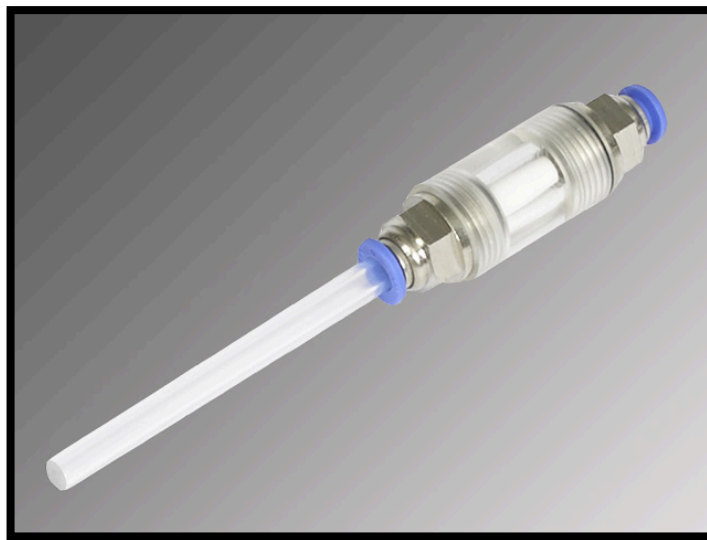

Figure 8: Portable Analyzer External In-Line Filter
2. The provided External In-Line filter can be used for additional filtering by connecting to the 1/4" push connect INLET port on the right panel of the analyzer. (Figure 8)